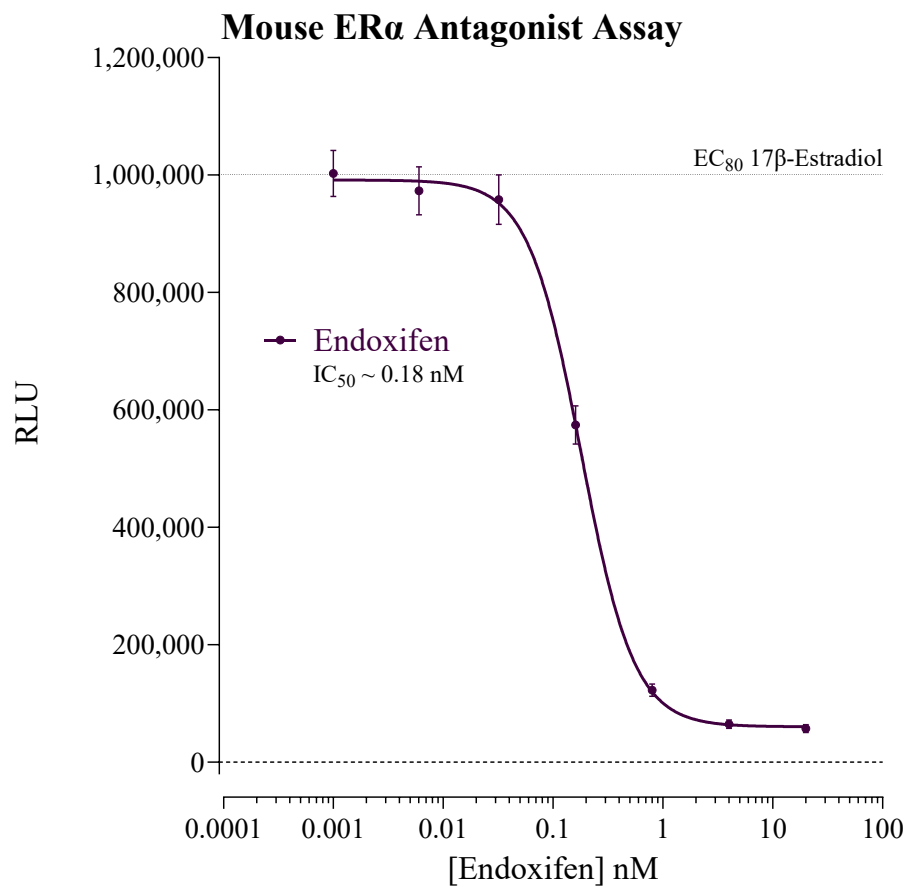

Figure 3. Antagonist dose-response analyses of the Mouse ER α assay.
- *Optional:* Reference Antagonist (refer to Fig 3.)